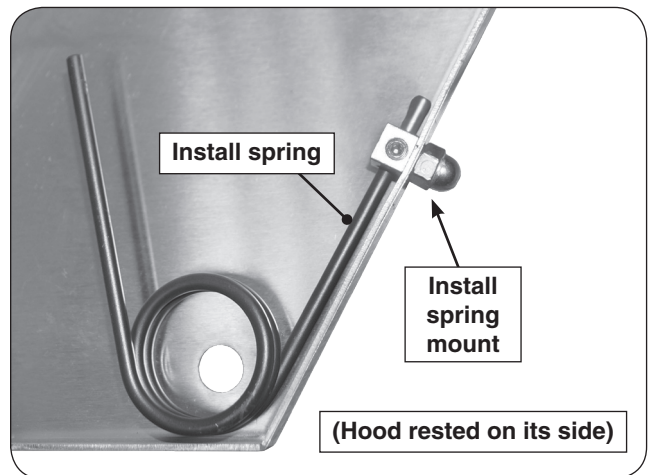

Fig. 3-1 Install spring and spring mount (on hood)
7. **HOOD:** install the new spring and mounting hardware. Ensure the spring is oriented exactly as shown in Fig. 3-1.